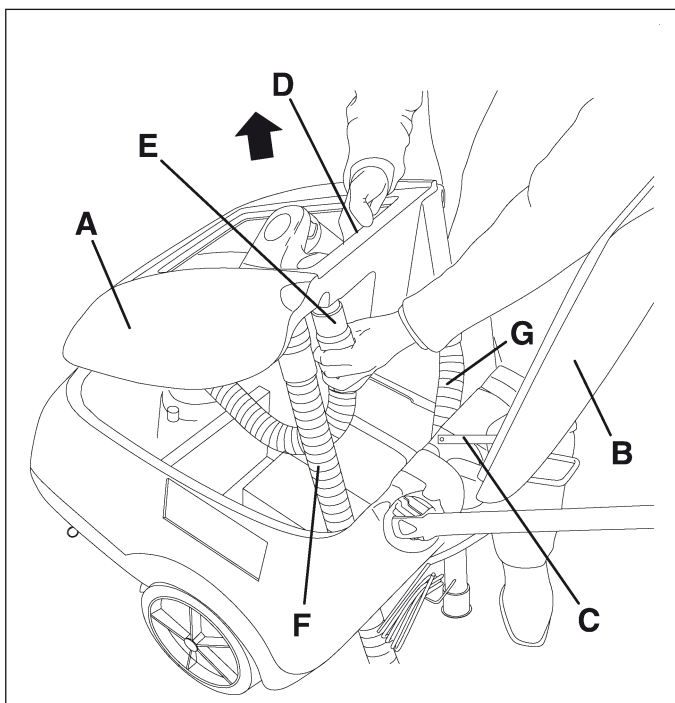

Figure 15
1. Empty the tank (A, Fig. 15) according to the procedure shown in the relevant paragraph.
6. Open the cover (B, Fig. 15) and apply the cover stand (C).
7. Grasp the recovery tank (A, Fig. 15) in the area (D) and slightly lift it, as shown in the figure.
8. Disconnect the vacuum hose (E, Fig. 15) from the tank, then remove the tank (A) with the hoses (F) and (G).